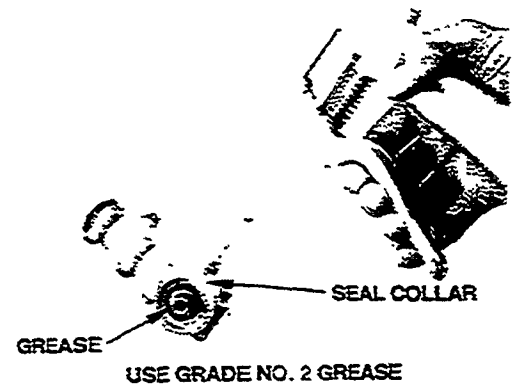

Figure 22
- After each 10 hours of use, the gear case must be greased by adding one (1) to two (2) pumps with a grease gun. If excessive grease is pumped into the gearbox, the hydraulic pressure will move the liner in the tube. To avoid this, remove the gearbox from the tube by loosening the two (2) clamp screws and backing out of the anti-rotation screw. Next, pump in the grease until it is forced out of the pinion gear inside the tube cavity (Figure 22). Reassemble the tube and gearbox in reverse order.